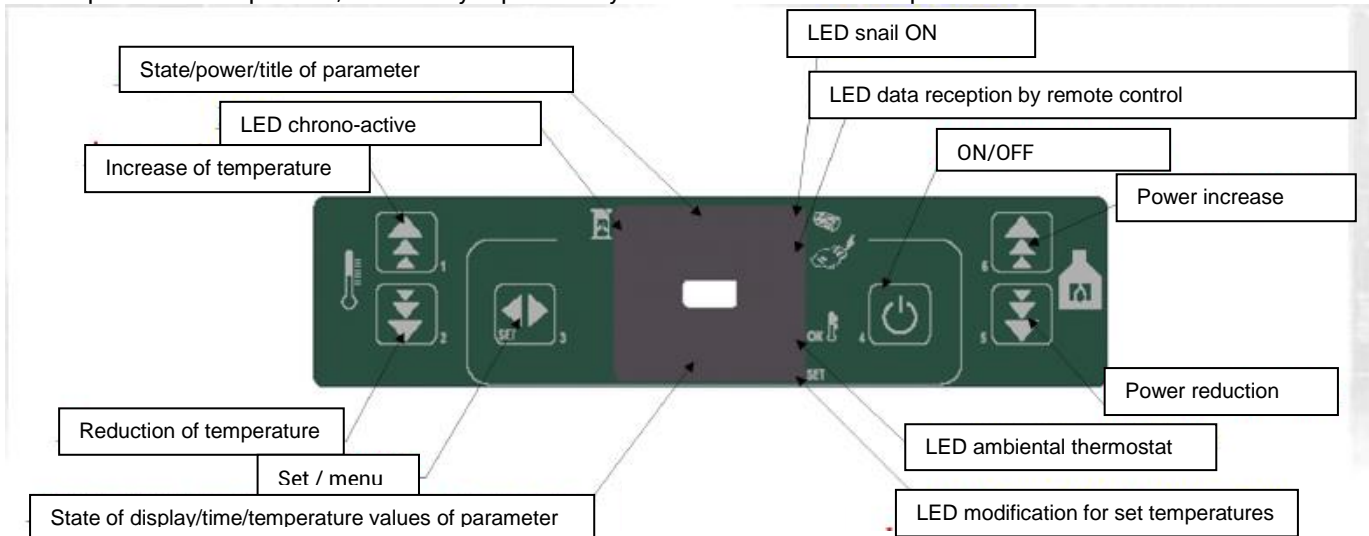

Figure 8.1 Electronic keyboard of controls
8.1. DESCRIPTION OF THE ELECTRONIC CARD (KEYBOARD)(FIGURE 8.1)